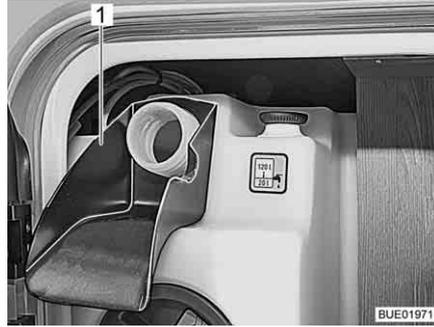

Fig. 230 Filling aid
- Plug the filling aid (Fig. 230,1) onto the drinking water filler neck.